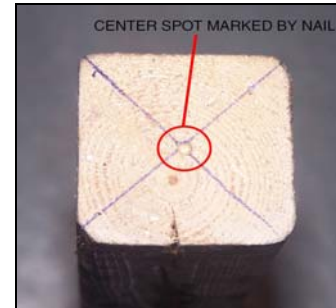

Figure 5.4
3. Mark the centers of both ends of the wood stock with a nail. (Figure 5.4)